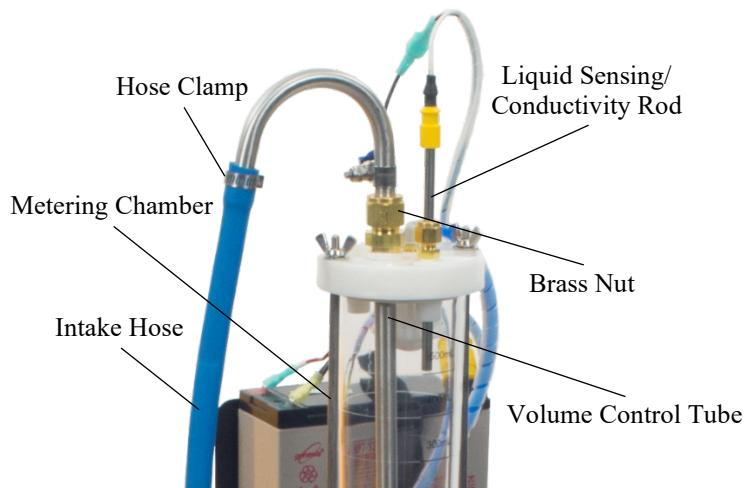

FIGURE 7-2. *Conductivity rod and intake hose connection*
1. Loosen the brass nut to set the volume control tube to the approximate volume required for collection by aligning the base of the tube with the graduated marking on the metering chamber (FIGURE 7-2). It is best to collect this volume and measure at least once to make sure it matches expectations. If necessary, adjust the tube up or down to obtain the desired collection volume.
2. Set the height of the conductivity rod (FIGURE 7-2). The bottom of the conductivity rod must be higher in the metering chamber than the volume control tube (at least 1.3 cm (0.5 in)), but below the bottom of the float valve barrier.
6. Connect the top of the intake hose to the volume control tube and tighten the hose clamp (FIGURE 7-2).